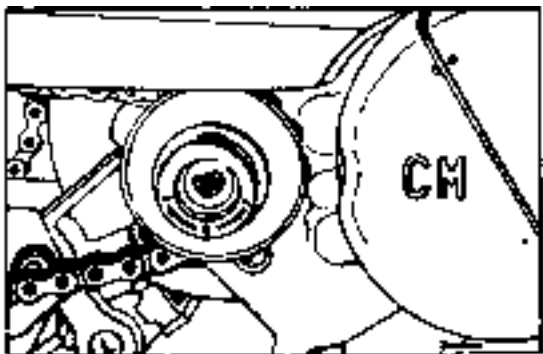

Fig. 9 - Engine drive disengaging mechanism
- h) Engine drive disengaging mechanism (Fig. 9)
If you intend to use the moped as a bicycle, (after using up the fuel) pull the driving lug (in the direction away from the engine) and rotate it 90 degrees clockwise or counter clockwise, and then release it (Fig.9). The driving lug will remain engaged in this position and the drive is not transmitted from the engine to the rear wheel.